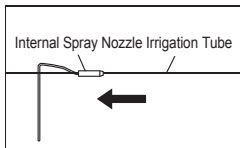

Fig.7
- 2) Connect the Irrigation Tube to the Internal Spray Nozzle firmly. (Fig.7)